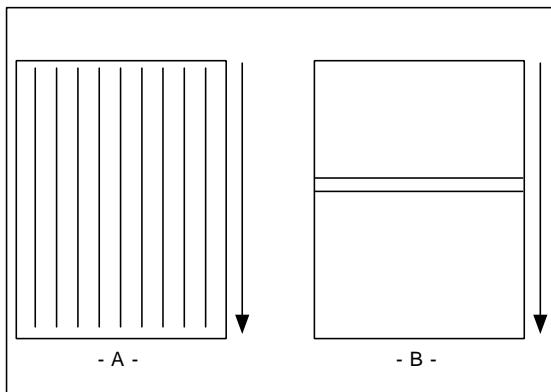

Fig. 25
3. Straight waves in output (Fig. 25 A).
4. Indent waves in output after pull rollers. (Fig. 25 B)